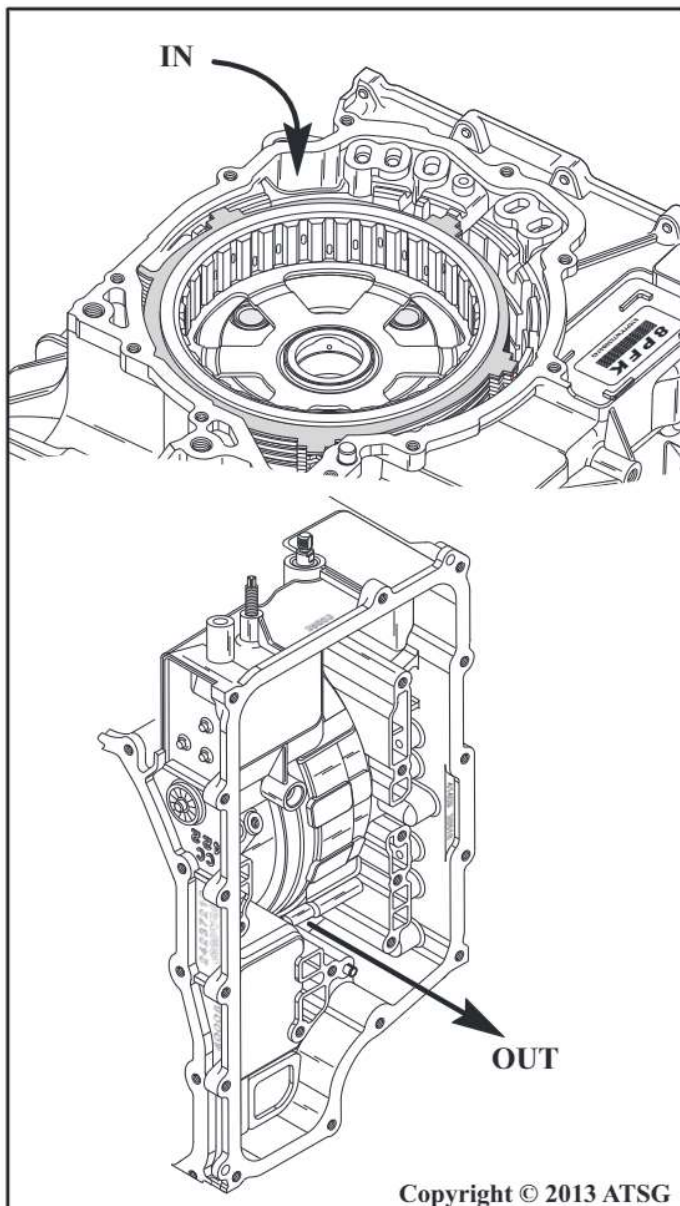

Figure 210
45. Route the input speed sensor harness connector thru the case passage, as shown in Figure 210.